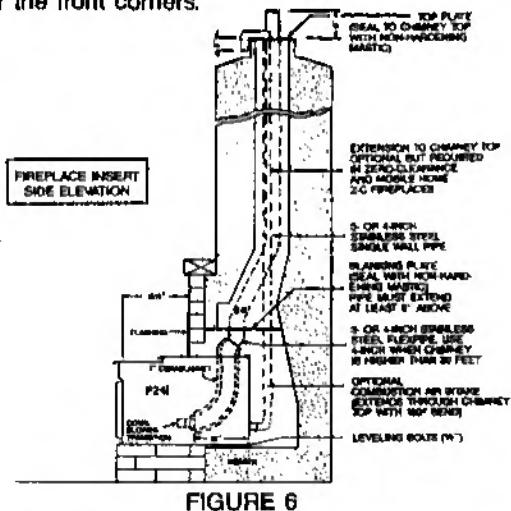

FIGURE 6
3. Top of chimney (see figure 6). All factory built fireplaces requiring outside air must use this method.
Insert Installations must be vented with 3" or 4" pipe (see figure 6). Pipe may be single wall stainless steel flexible pipe. Vent may terminate within chimney beyond a blanking plate or extend to the chimney top. See section 2.2 for outside air excess information. In zero-clearance fireplace installations, when the fireplace opening is above the floor or raised hearth, the stove's front can be supported by threading two 3/8" bolts into holes under the front corners.